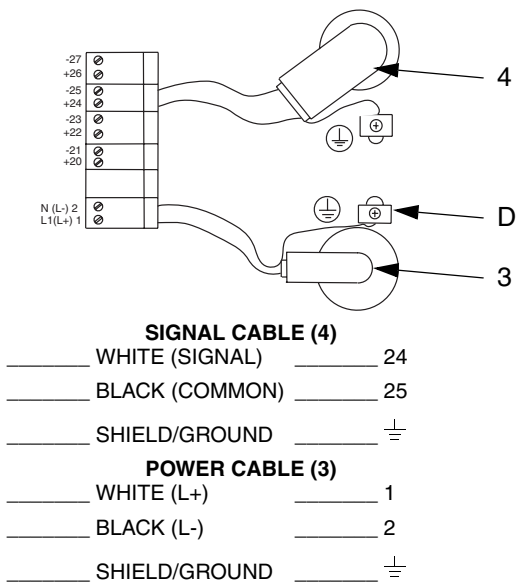

FIG. 6
The power cable (3) and signal cable (4) are factory assembled to the meter. If cables need servicing or replacement, see FIG. 6 to connect to meter.
Ground the flow meter sensor by connecting a ground wire between the ground lug (D) and true earth ground. FIG. 6.